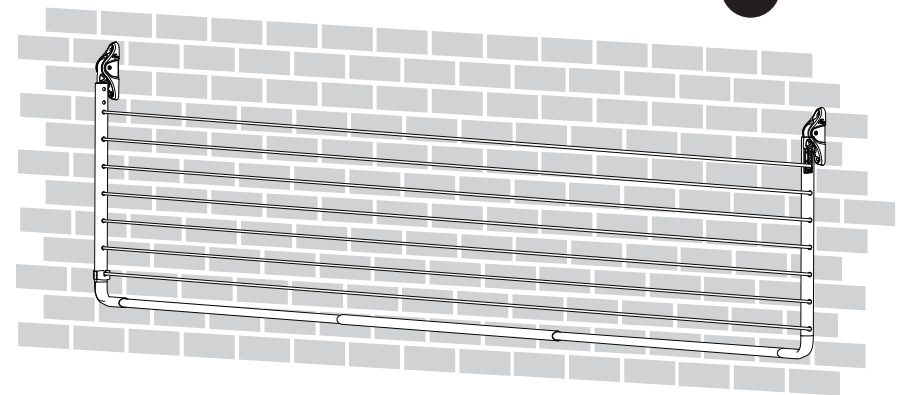

Fig.12
- 4.3 Holding the frame, guide to its closed position. (Figure 12)